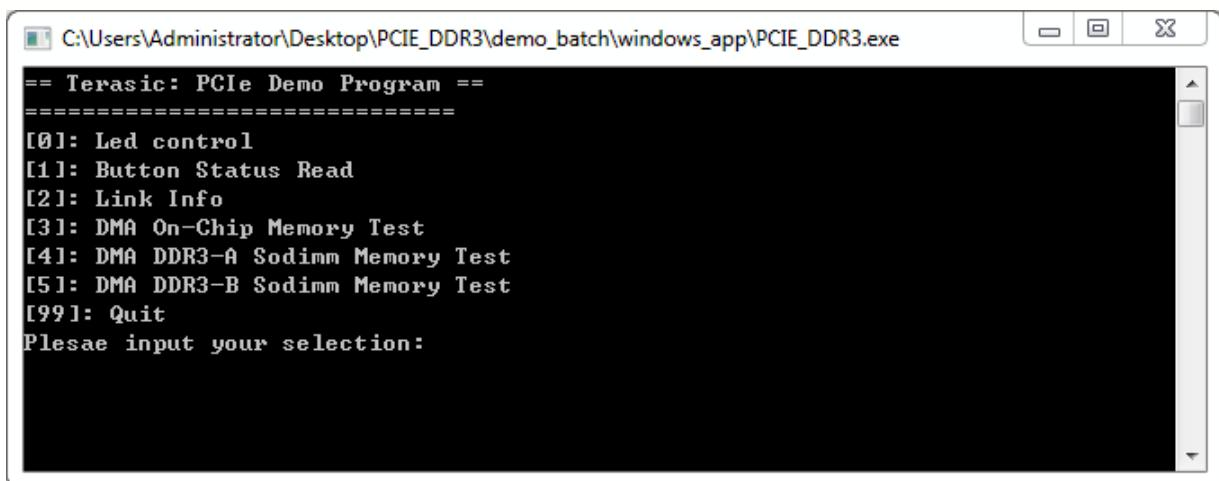

Figure 7-16 Screenshot of Program Menu
7. Goto windows_app folder, execute PCIE_DDR3.exe. A menu will appear as shown in **Figure 7-16.**